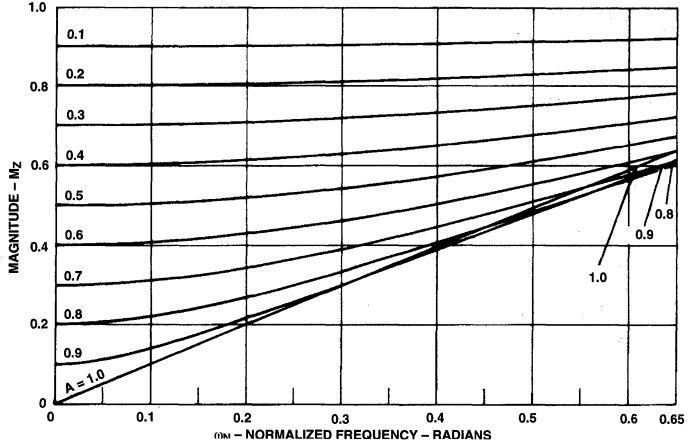

Figure 14. Magnitude Contribution of the Zero Term.
5. From Figure 14, find the value of the zero term's magnitude $[M_z(\omega_{NC}')]$ by plotting the estimated value of the zero (A) from step 4 at the normalized desired gain